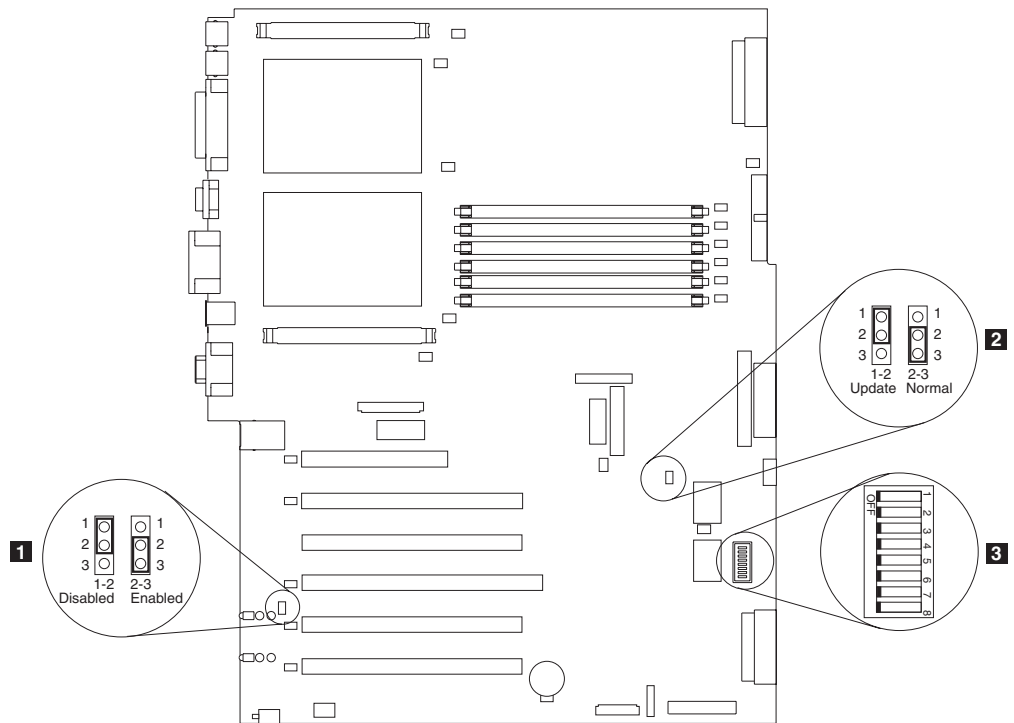

Figure 14. System-board switches and jumpers
- System board (with pins 2 and 3 on the J23 extension cable connected to bypass the power switch; see Figure 14 on page 147).